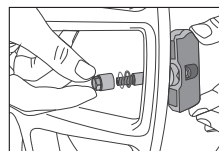

Fig 4
- (Fig 4) Install the sensor and valve. Insert the valve through the rim hole, fix the screw to secure the valve and sensor by 2 Nm in torque, attach the sensor body to the inner surface of the rim by adjusting the angle of the sensor body.